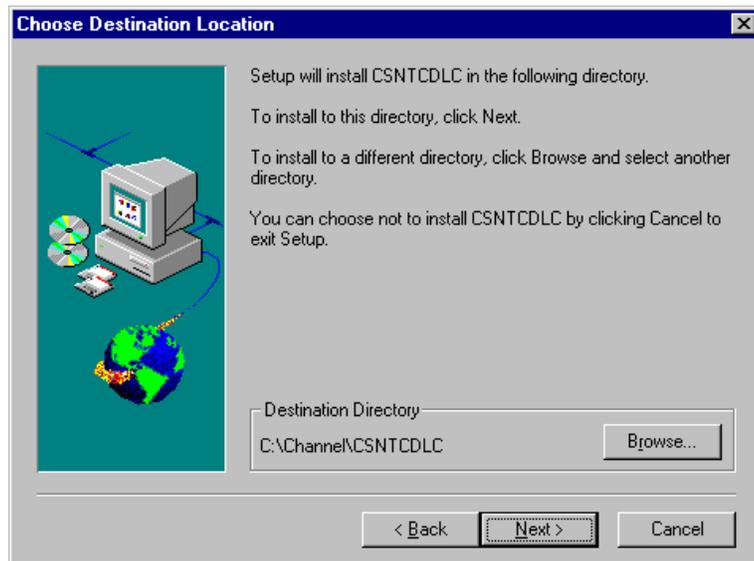

Figure 7-4. Choose Destination Location Screen
4. The next screen to display allows you to choose a directory where Data Link Control will be installed (Figure 7-4). The default directory is "C:\Channel\CSNTCDLC". You may use the **B**rowse button to select a different directory. Once the directory is defined to your satisfaction, click on **N**ext to continue the installation.